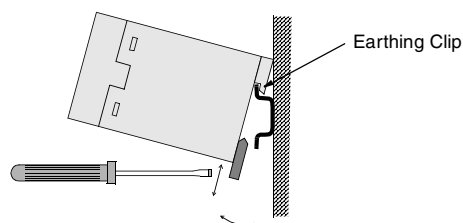

Figure 3-2 Mounting and removing the module.
7. Push the module onto the rail. The module can be released by pulling the locking spring with a screwdriver (see Figure 3-2).
- Module earth is connected to the mounting rail by means of an earthing clip (see Figure 3-2 below). The mounting rail onto which the module is to be mounted must be earthed to a noiseless earth. If the rail is not mounted on a properly earthed base, a separate earthing conductor must be used. The conductor must be as short as possible and the cross-sectional area must be 6 mm² at least.
3. Push the module onto the rail. The module can be released by pulling the locking spring with a screwdriver (see Figure 3-2).